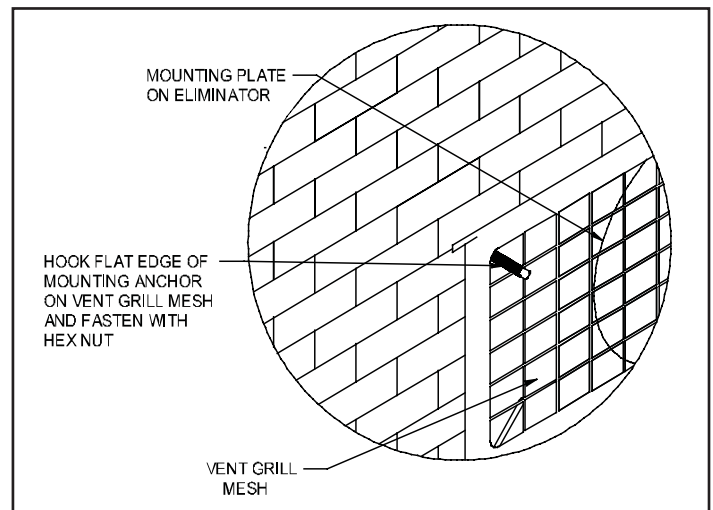

Figure 4
3. Secure ELIMINATOR™ to the grill mesh of the vent with the supplied mounting anchors. Insert the flat edge of the mounting anchor through the slotted holes in the ELIMINATOR™ mounting plate and hook the grill mesh of the vent. Hold in place and install the supplied flat washer and hex nut. After all four (4) mounting brackets are installed, tighten nuts. (See Figure 4)